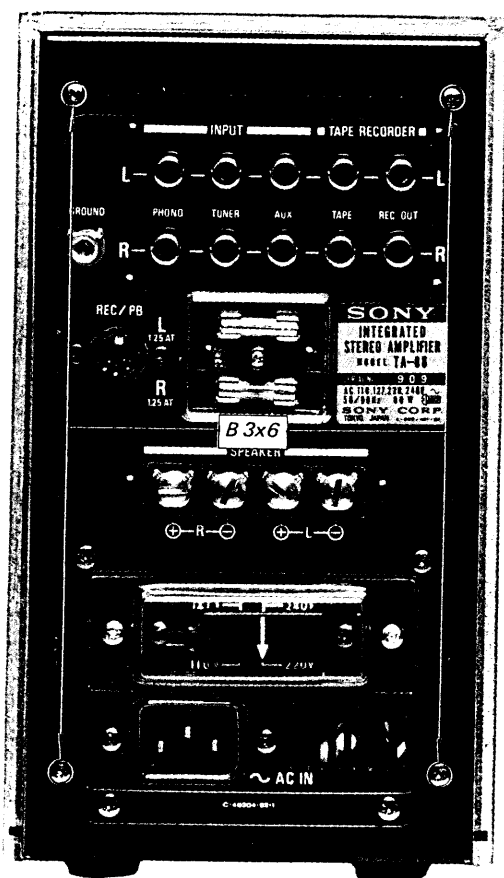

Fig. 2-2. Wooden case removal
2. Remove the four screws at the rear panel shown in Fig. 2-2.